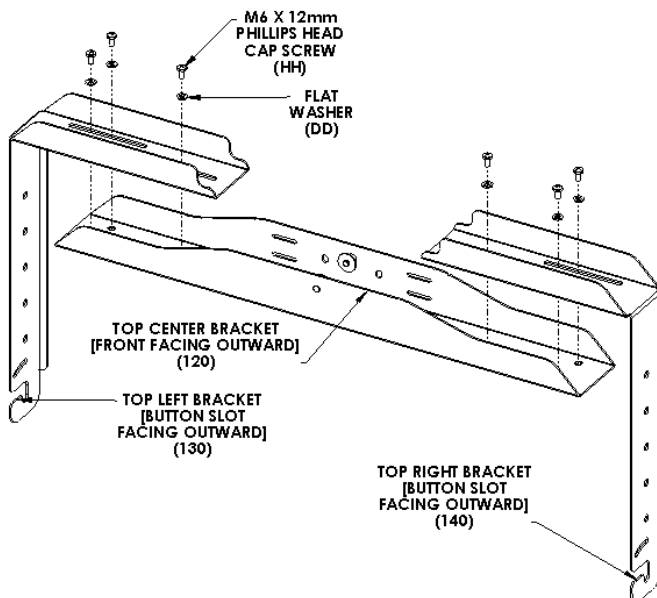

Figure 14. Attach Support Brackets to Center Bracket
1. Locate the LH and RH support brackets (130 and 140), the top center bracket (120), six M6 X 12mm Phillips head cap screws (HH), and six flat washers (DD). See Figure 14.
NOTE: Make sure that LH and RH support brackets are positioned with the button slot facing outward as shown in Figure 14. Also, make sure that the front of the top center bracket is facing outward.